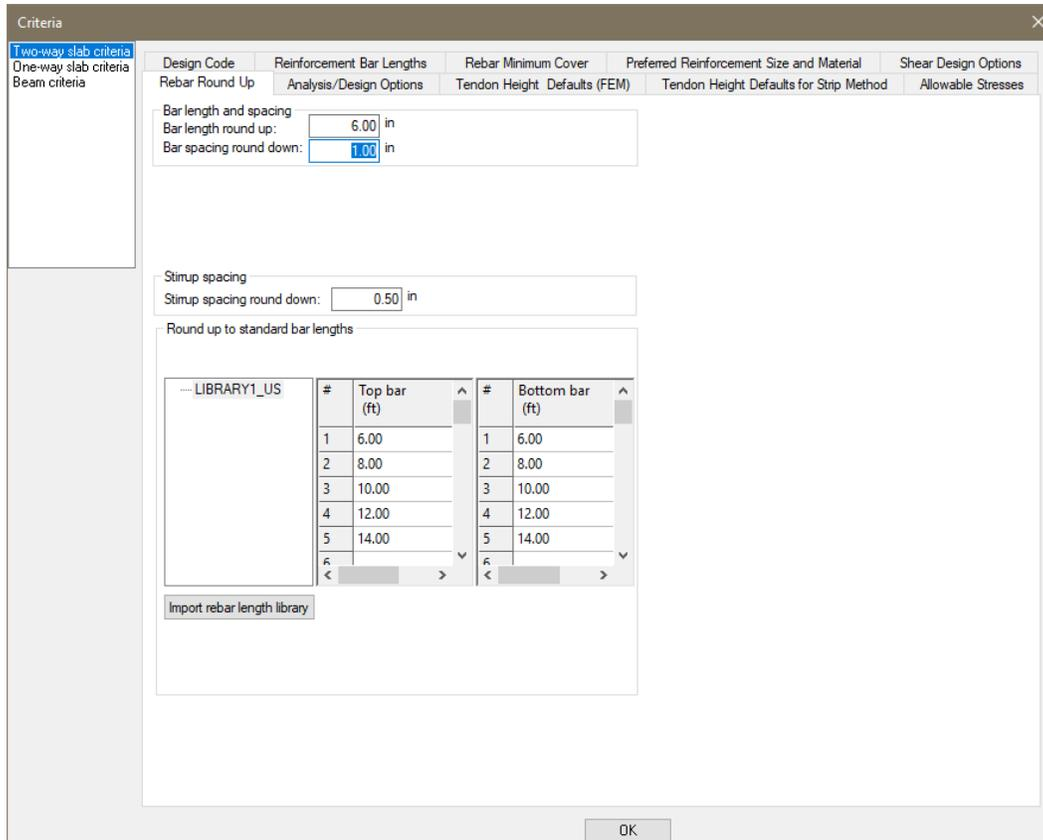

**Figure 2-16**
- Click on the *Shear Design Options* tab. This will open the window from **FIGURE 2-16**.